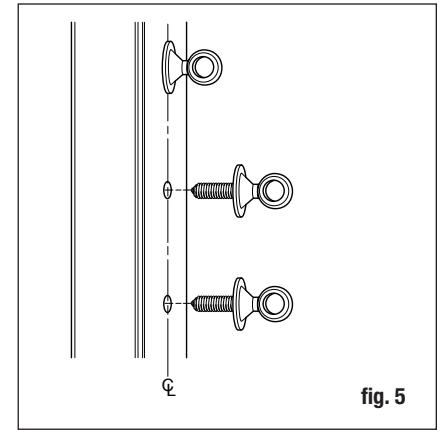

fig. 5
**Step 8:** Install eye lag screws into the predrilled post sleeve holes on both ends of rail (fig. 5). *Tip: Use a 5/8" socket and drill to install eye lags into post.*